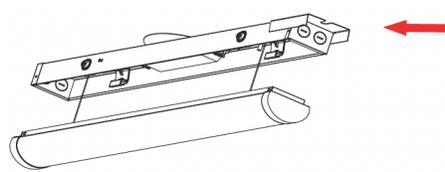

Fig. 17
6. Insert the next fixture onto the connection bracket, then drill holes suitable position in the wall for installing the next strip light (Fig 17).